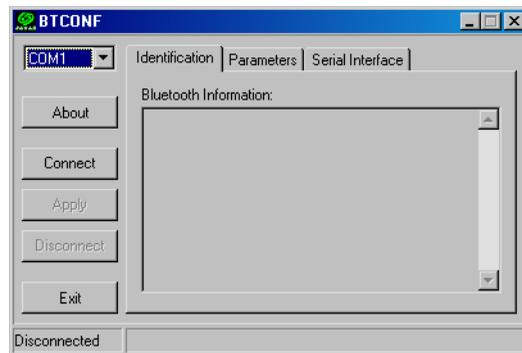

Figure 2-37. Bluetooth® Module Configuration Main Screen
3. Run the Bluetooth® module configuration program (Btconf.exe) (Figure 2-37).